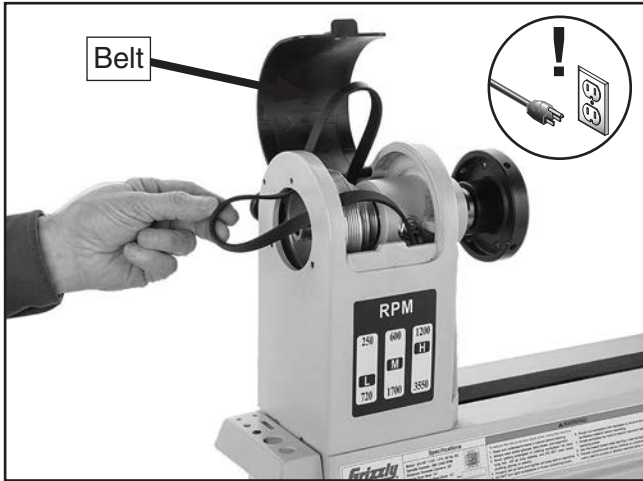

Figure 45. Installing belt onto spindle pulley.
6. Insert new belt through lower opening, and pull it around end of spindle onto pulley (see **Figure 45**).